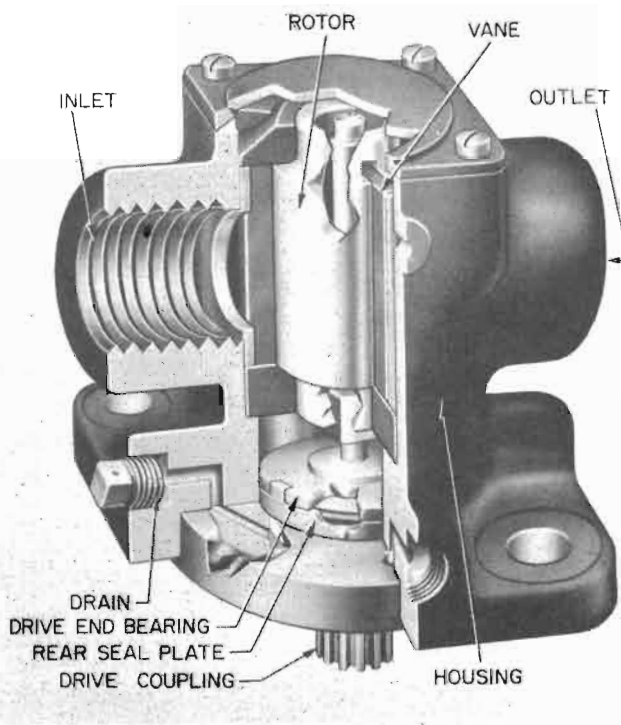

Figure 164 — Engine Fuel Pump
(1) DESCRIPTION.—(See figure 164.)—The engine-driven fuel pump, type F-10, is of the rotary positive displacement type. The pump consists of an aluminum housing in which a rotor with four vanes is driven by means of a drive shaft incorporating a spline gear mating with a gear on the accessory drive section of the engine housing. The fuel pump is located on the lower left side of the accessory section to the left of the carburetor. The pump incorporates a bypass relief valve that maintains a uniform discharge pressure during the varying pump speeds or when using a hand pump, by allowing the fuel to flow from the inlet to the outlet side of the fuel pump.
(2) MAINTENANCE.—In case of difficulty with the relief or bypass valve, remove the valve housing and inspect for foreign matter which may have lodged under the valve. Wash the housing carefully in a suitable cleaning fluid before replacing it. Also, check to see that there is no stoppage in the vent line.
(3) INSTALLATION. — Before mounting the pump on the engine, note carefully the direction of rotation of the drive gear. Place the gasket in position over the mounting studs, and mount the pump in position for the necessary connections. Take care to tighten the mounting nuts evenly; see that they are